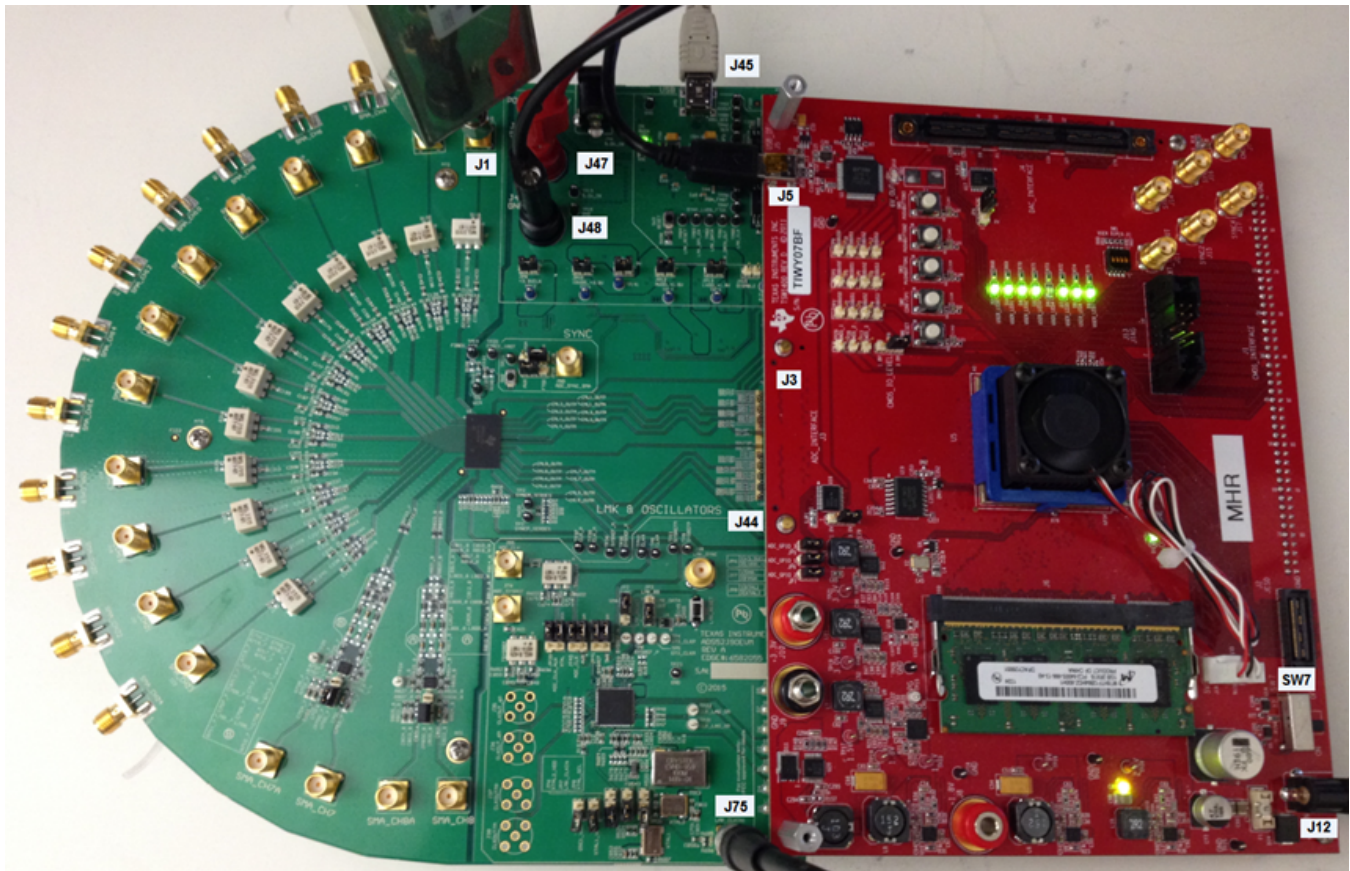
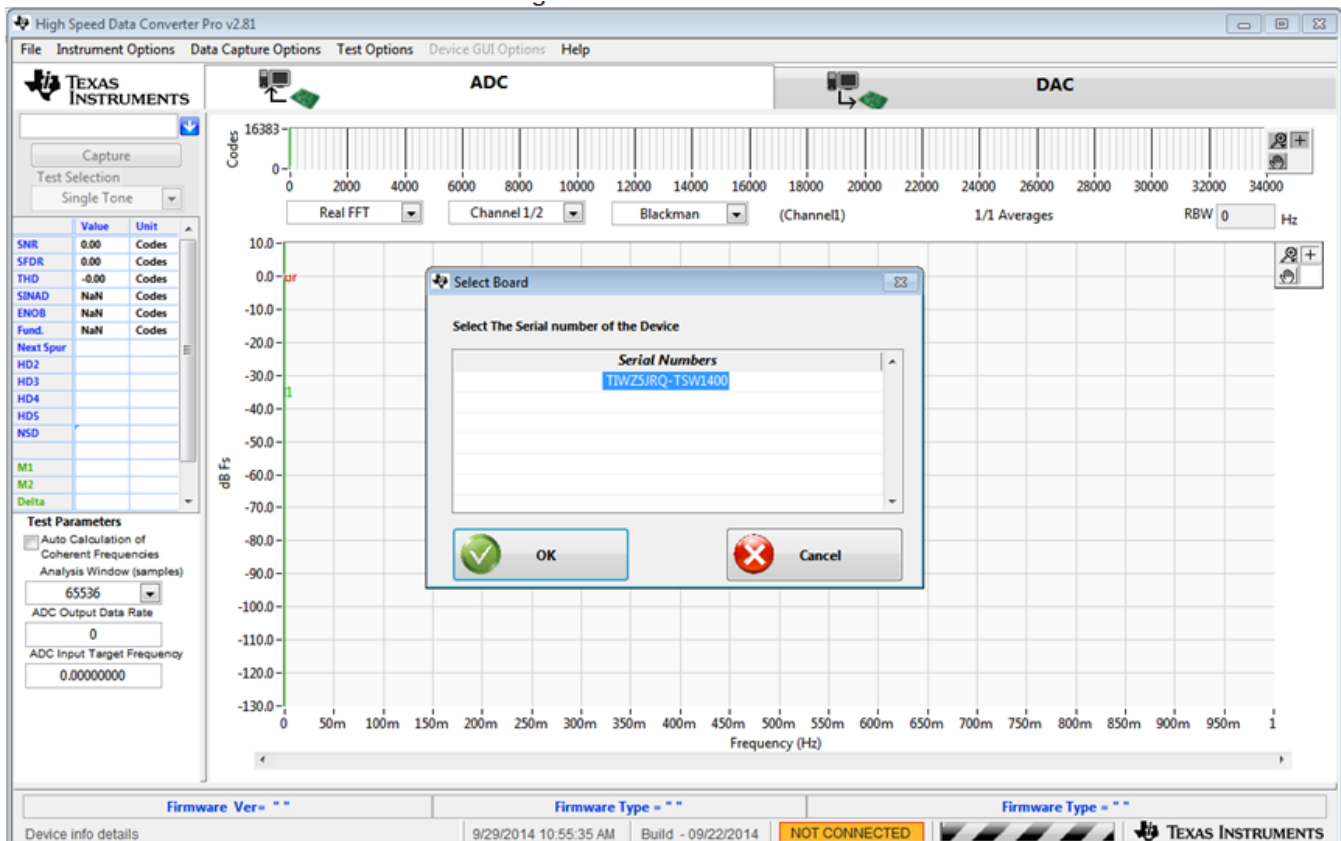

Figure 7. TSW1400 and ADS52J90 Setup
Figure 8. TSW1400 GUI Setup (a)
The connections shown in Figure 7 should be made for proper hardware setup.
- With the hardware setup shown in Figure 7 established, launch the *High Speed Data Converter Pro GUI*. The GUI should automatically detect the serial number of the TSW1400 EVM connected as shown in Figure 8. Click on OK.